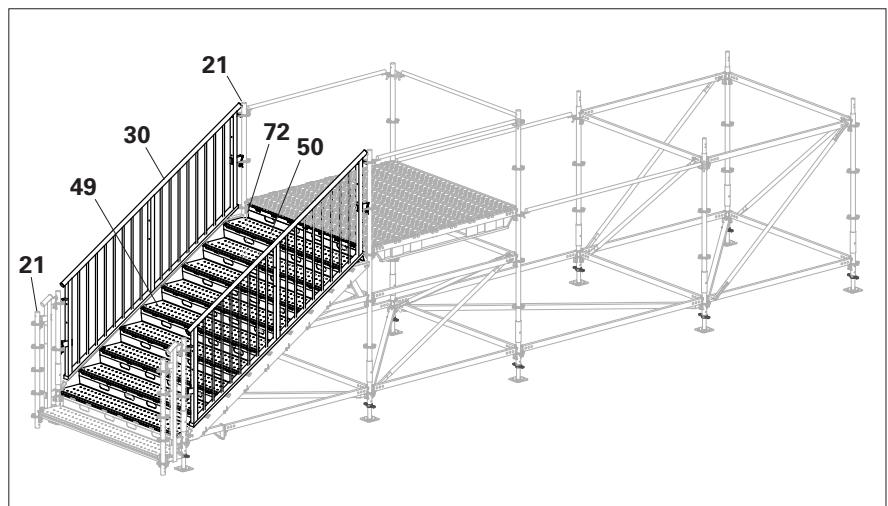

Fig. C1.09
11. Fit Plastic Caps Ø48.3mm grey (**21**) onto the top standards. (Fig. C1.09)